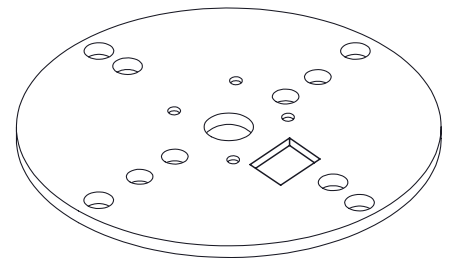

Figure 2.
- Make wiring connections as seen Figure 2.